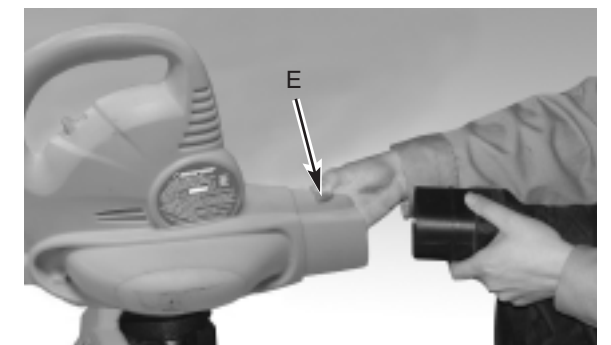

Fig. 10
7. Press down the button (E) and insert the bag adapter into the unit.(Fig. 10, 11 and 12)